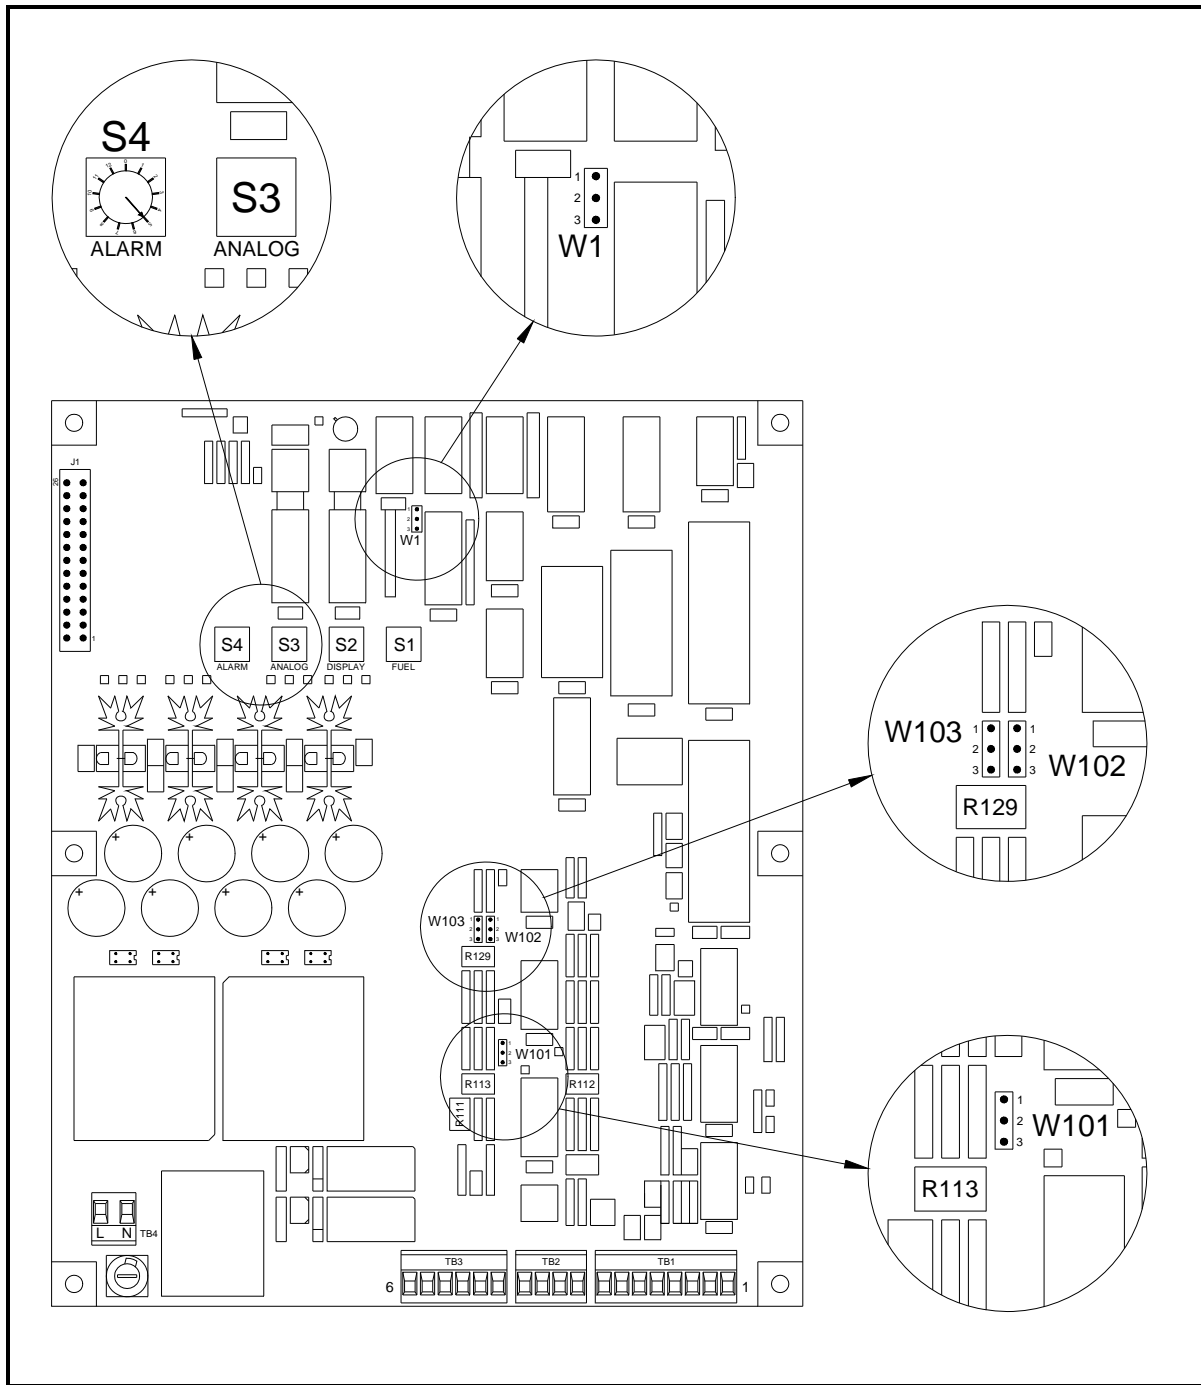

Figure 21: 300D Display Circuit Board
3. Adjust switch S4 to the required position (refer to the Table 6 and Figure 21 on page 32).
1. Locate jumper W1 on the 300D Display printed circuit board. See Figure 21 on page 32.
The combustibles alarm trip point is set by using the jumpers and potentiometers on the 300D Display printed circuit board. Complete the following steps and refer to Figure 21 on page 32 to set the combustibles alarm trip point.